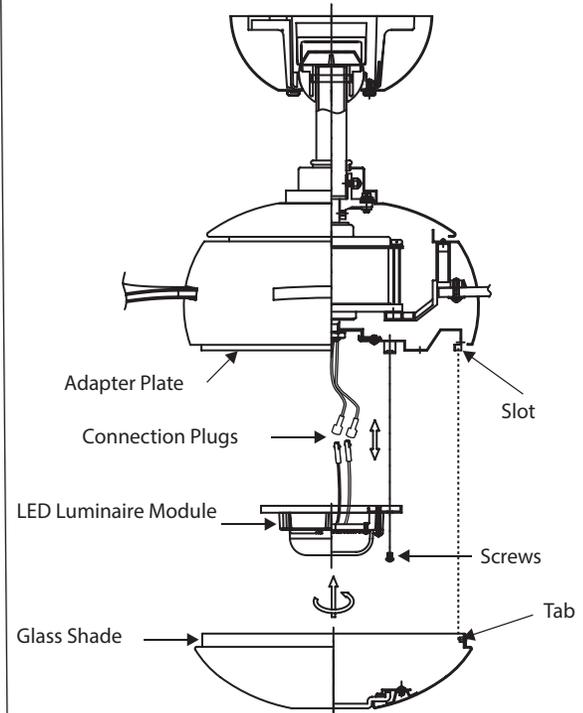

FIGURE 19
2. Raise and hold the LED luminaire module close to the adapter plate and proceed to secure the wire connections. Connect the white wire connector from the luminaire module to the white wire of the fan. Follow the same procedure with the black wire connectors (Fig. 19).
3. Tuck connections neatly into adapter plate. Place the luminaire module key holes over the 2 screws previously loosened from the adapter plate. Turn luminaire module until it locks in place at the narrow section of the key holes. Secure by tightening the 2 screws previously loosened and the one previously removed (Fig. 19).